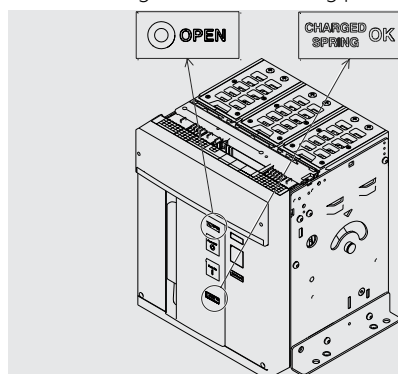

Figure 76
3. Check that the circuit-breaker is open (open/closed signalling device "O - OPEN"), and check that the springs are charged (springs signalling device "yellow - CHARGED SPRING") as indicated in Figure 76.